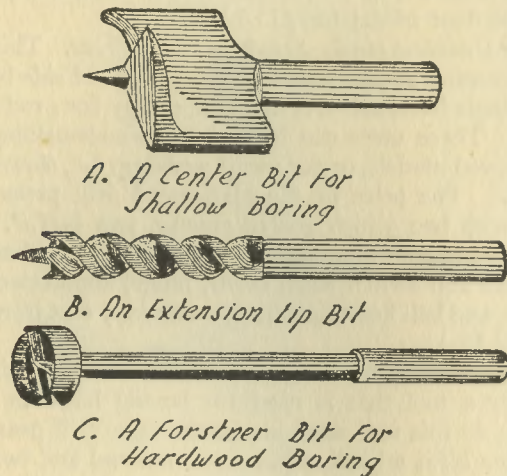

FIG. 59. KINDS OF WOODWORKING BITS
About Bits and Drills. What we call a *bit* is specifically a tool that is used for boring holes in wood and to do this it is used in a brace or a drill press. A *machine bit* is a bit that has a pointed end and two cutting lips, and these cut the fibers of the wood you are boring and make perfectly smooth holes. Now there are several kinds of machine bits and chief among these are (1) the center or spur bit, (2) the extension lip bit and (3) the Forstner bit. The *spur bit*, see Fig. 59, is made with either plain or extension bits, and these are the kind that are generally used with amateur press drills; they have $\frac{1}{2}$ -inch round shanks to fit the standard $\frac{1}{2}$ -inch machine chucks, and they will bore holes from $\frac{1}{4}$ to $\frac{3}{4}$ of an inch in diameter.